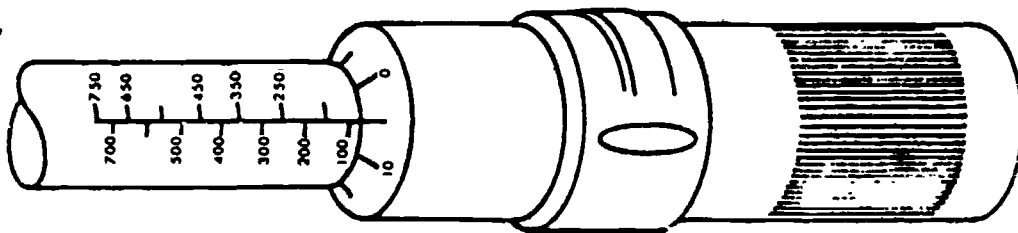

Figure 4.
16. Torque the final (third) nut to exactly 105 inch pounds (figure 4). Check the accuracy of your setting by referring to the illustration below. 100 on the shaft scale plus 5 on the grip index = 105 inch pounds.